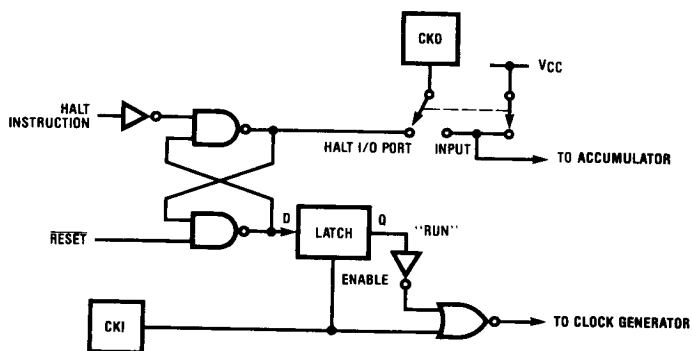

FIGURE 6b. Halt Mode—One-Pin Oscillator
- b. One-pin oscillator—(RC or external). See *Figure 6b*.